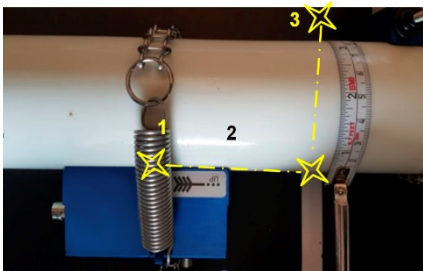
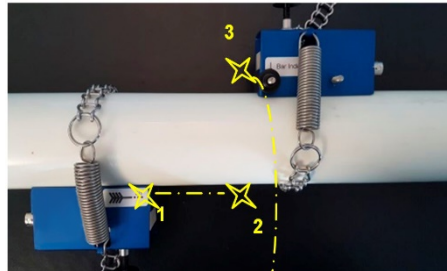

Figure 19: Mark the position of the second transducer at half circumferential distance
Figure 20: Mounted transducer, Z-mounting
6. Mount the second sensor to the centre of the sensor front (not the sensor) at mark 2 (see Figure 19 & Figure 20). The sensors are now exactly opposite.